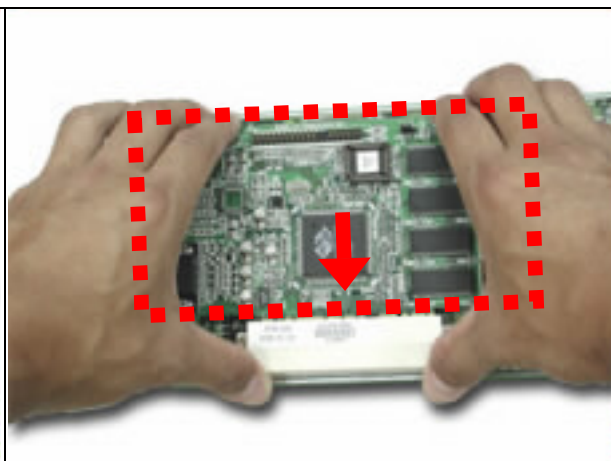

Fig. 2-33 Push the PCI add-on card into the slot
2. The back of the PCI card should be against the back of PPAP-200 (*Fig. 2-33, 2-34*).